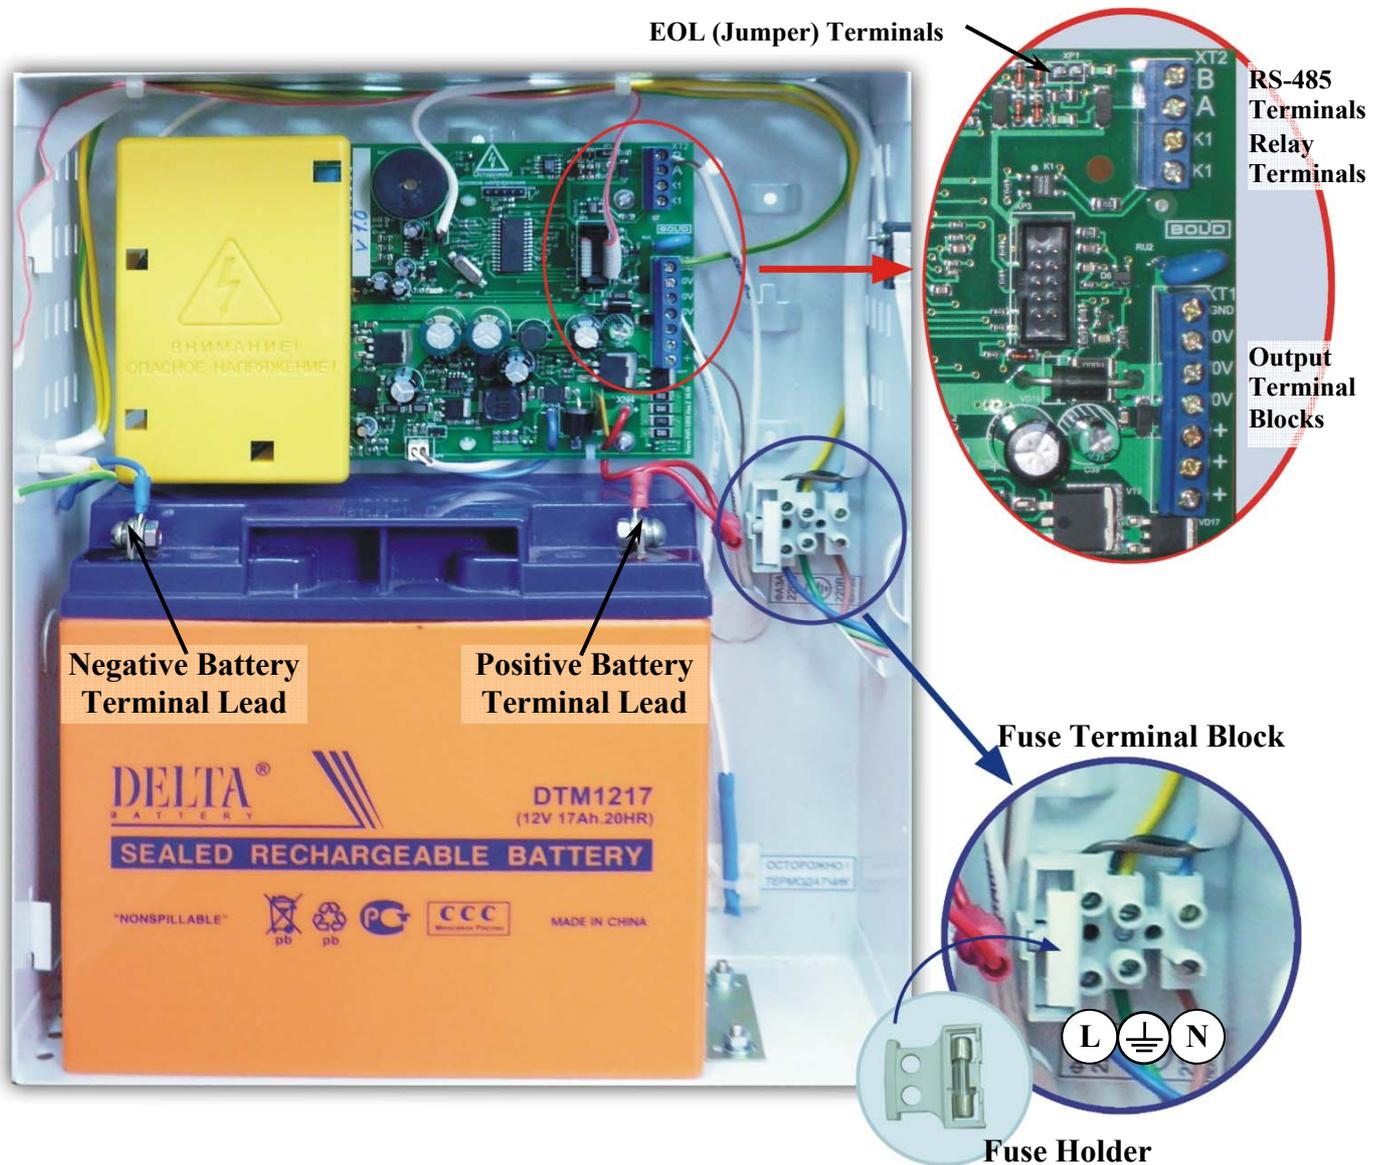
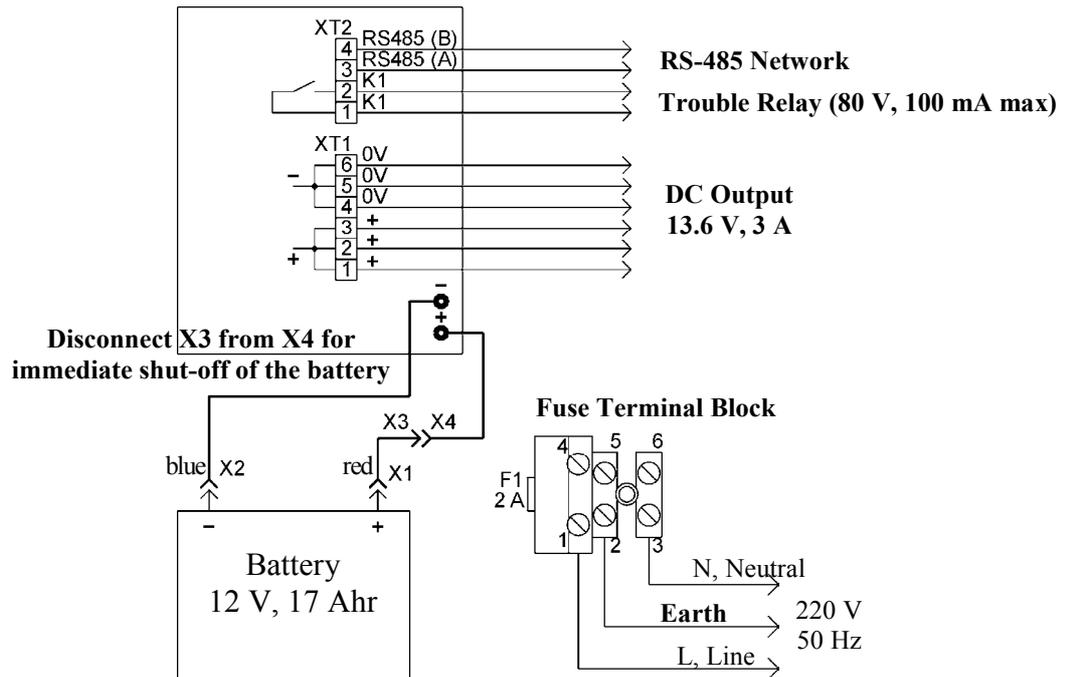

Figure 3. RIP-12 RS Base — Top View
Figure 4. Drawing of RIP-12 RS Electrical Connections
The top view of the RIP-12 RS base is shown in Figure 3. Mounting and wiring of electrical wires are implemented in accordance with the drawing of electrical connections shown in Figure 4.
**CAUTION! Remove the Fuse Holder from the Fuse Terminal Block (see Figure 3) before starting to wire in order to avoid premature connecting of mains utility power to the RIP-12 RS PCB**
To connect RIP-12 RS to a net controller via RS-485 interface line couple **B** and **A** contacts of XT2 terminal block (see Figure 4) with **B** and **A** wires of RS-485 line respectively.
If RIP-12 RS is not the first or the last device in the RS-485 interface line remove EOL Jumper from XP1 Terminals located close to **B** and **A** contacts of XT2 (see Figure 3).
RIP-12 RS electrical wiring and turning on is implemented as follows (see Figure 4).
? RIP-12 RS communications are lost	Check RS-485 line connections and cable condition  Check if RS-485 cable is connected properly. If A line is connected to the B terminal of the RIP-12 RS PCB or B line is connected to the A terminal (see Figure 3) correct improper polarity.  Inspect XP1 terminals on the RIP-12 RS PCB. If RIP-12 RS is the first or last device brought to RS-485 interface line then the jumper must be plugged in, otherwise it must be removed  If the network controller is connected to another power supply rather than to RIP-12 RS, check if the 0 V circuits of the RIP-12 RS and the network controller are coupled